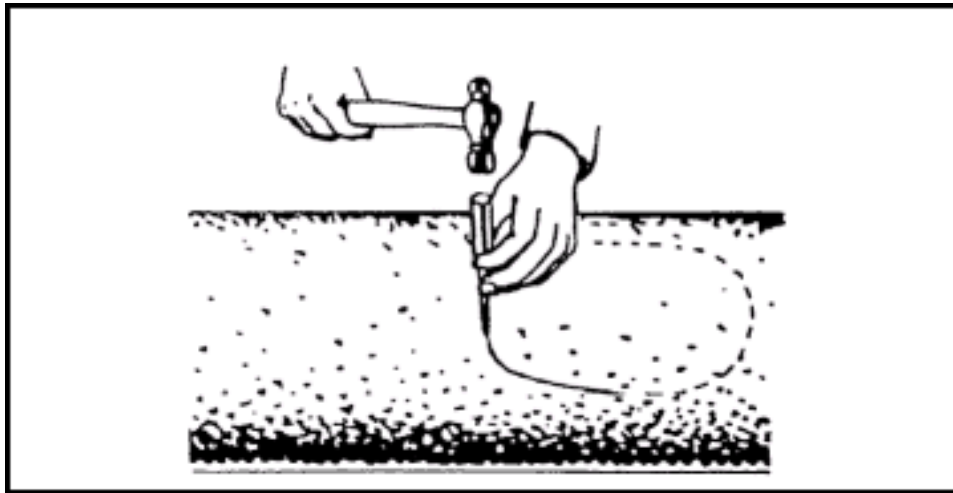

Figure 1-6. Cutting a Hole in the Main Sewer
Step 3. Make the cut on this line with a small, cold chisel and an 8-ounce ball peen hammer, as shown in Figure 1-6. Use light blows to prevent damage to the main sewer.